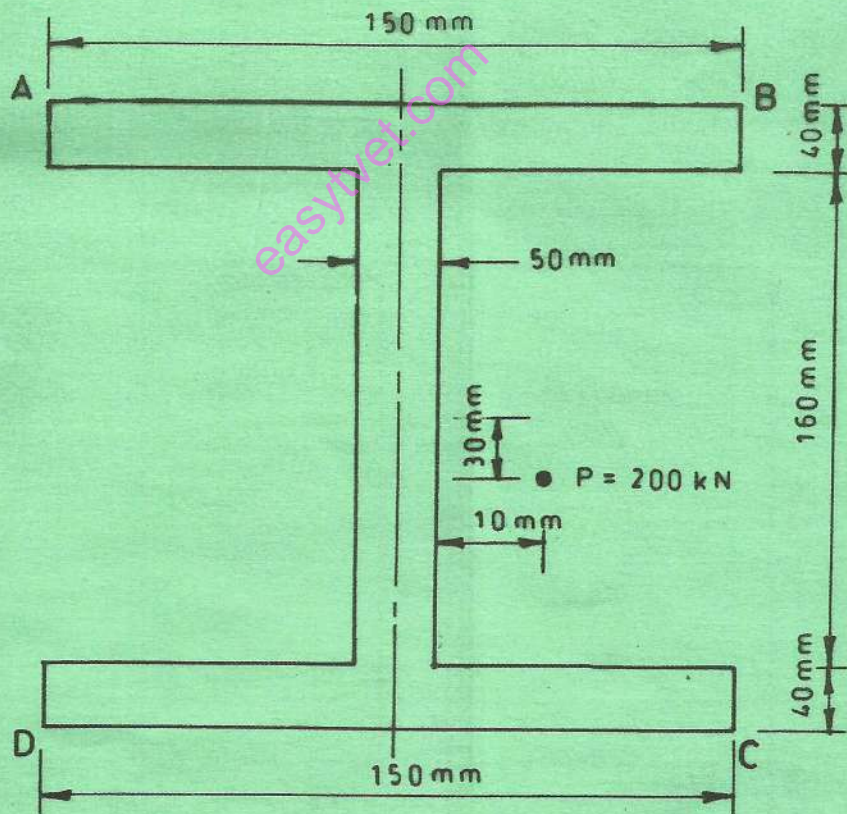

Fig. 3
- (b) **Figure 3** shows a cross-section of a loaded column. Determine the extreme fibre stresses at point A, B, C and D. (12 marks)